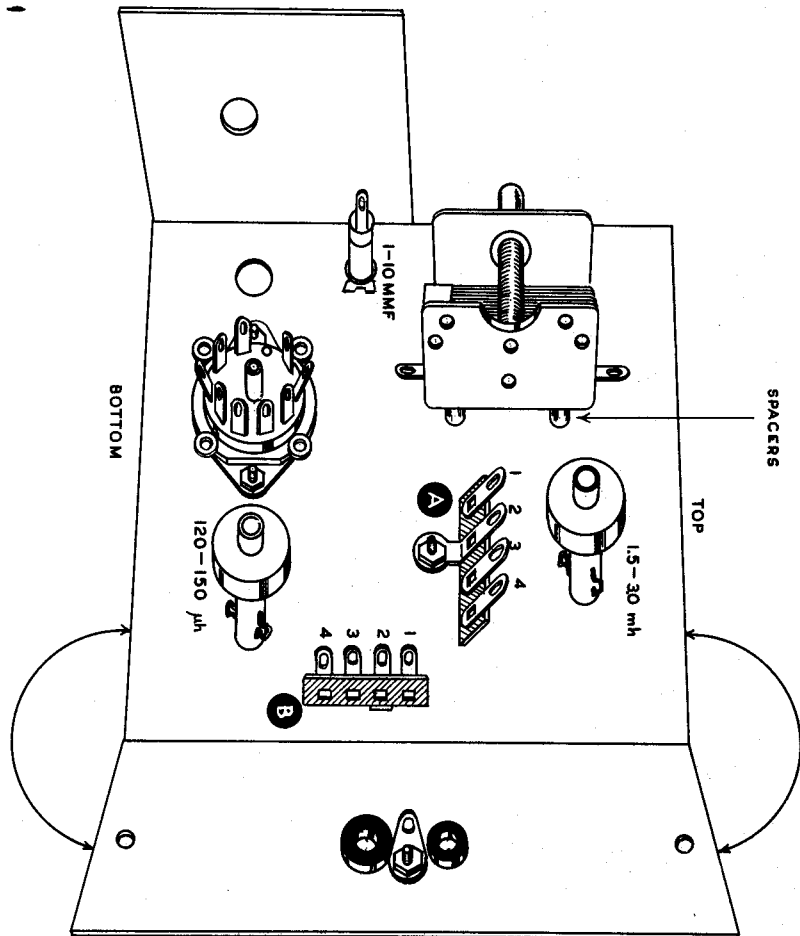

Figure 2
- ( ) Mount a 9-pin miniature socket in the 3/4" hole near the chassis bottom, using 3-48 screws, lockwashers and nuts. Position the socket so the pins appear as shown in Figure 2.
- ( ) Mount the 1-10  $\mu\text{mf}$  trimmer capacitor by pushing the mounting clip through the 5/16" hole until it catches (see Figure 2). The stator terminal should face toward the chassis rear. This trimmer capacitor and the two coils have a small locating projection on one side of the mounting clip. This should be bent back or broken off before the clip is pushed into the mounting hole.
- ( ) Cut the other resistor lead to 3/8" and connect to socket pin 3 (S). Keep the resistor close to the tube socket.
- ( ) Cut one lead of a 2.2 megohm resistor (red-red-green) to 5/8" and the other lead to 1/2". Bend the leads as shown in Pictorial 1. Connect the 5/8" lead to ground lug 2 (S) and the 1/2" lead to pin 2 (NS).
- ( ) Cut both leads of a 2.2 megohm resistor to 1/2" and connect from ground lug 3 (S) to pin 7 (NS).
- ( ) Mount the 100  $\mu\mu\text{f}$  tuning capacitor near the top front of the chassis in the following manner. First bend the capacitor terminals at right angles as shown in Figure 2. Insert four 4-40 x 3/8" screws through the 1/8" holes and place 3/16" spacers over them. Place the capacitor over the screws, and holding the screws with the fingers and the capacitor with the thumb of one hand, start each screw separately. When all screws are started, align the capacitor squarely and tighten all screws.
- ( ) Mount the two 4-lug terminal strips in the positions shown in Figure 2, using 6-32 screws, lockwashers and nuts.
- ( ) Mount the 1.5-3.0 mh coil #40-67 (this is the coil not completely enclosed by an external core) in the 5/16" hole nearest the top of the chassis and terminal strip A. See Figure 2.
- ( ) Connect a .005  $\mu\text{fd}$  disc ceramic capacitor from A2 (NS) to coil terminal 2 (S).
- ( ) Connect a .005  $\mu\text{fd}$  capacitor from A2 (NS) to A3 (NS). See Pictorial 1 and keep the capacitor close to the terminal strip to allow room for the two mica capacitors.
- ( ) Connect a .005  $\mu\text{fd}$  capacitor from A1 (NS) to terminal 1 of the coil (NS).
- ( ) Connect a wire to A1 (S). Leave the wire long enough to reach pin 1 of the tube socket (about 2 1/2"). Strip the end but do not connect yet.
- ( ) Cut a wire to 3 3/4", strip both ends and connect one end to terminal 1 of the coil (NS). Leave the other end free.
- ( ) Cut one lead of a .005  $\mu\text{fd}$  capacitor to 1/2" and connect to terminal 1 of the coil (S).
- ( ) Slip a 1 1/8" length of sleeving over the other lead and connect to A4 (NS).
- ( ) Connect a 10 K $\Omega$  resistor (brown-black-orange) from A3 (NS) to B1 (NS).
- ( ) Slip a bare wire through the #1 coil terminal (NS) and connect to the lower tuning capacitor terminal (S). See Pictorial 1.